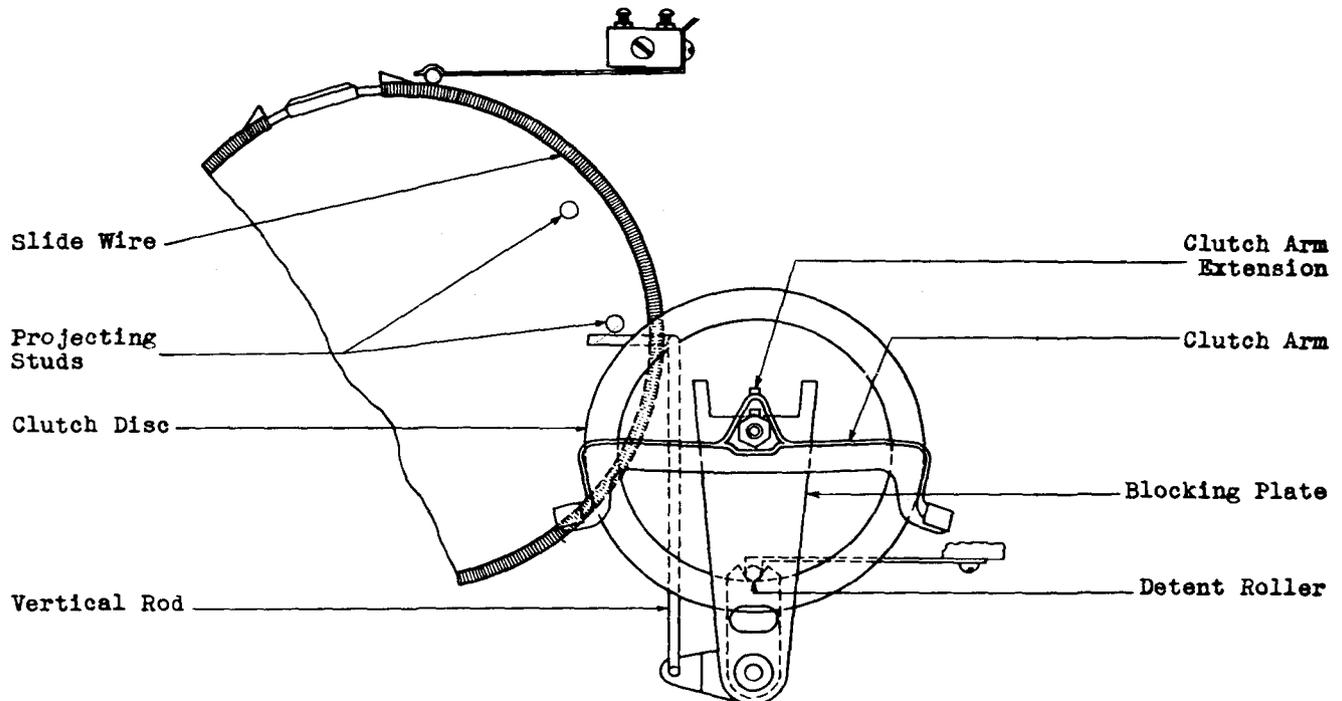

Fig. 15 - Clutch Arm Block Mechanism
(1) Stop the controller as described in paragraph 3.004. If this requirement is not met check the requirement in regard to bridge balance (Rq.2.13) to determine if the slide wire and the dial have the correct angular alignment with respect to each other. If their angular alignment is satisfactory then check whether the blocking plate Fig. 15 is correctly centered. To do this, it will be necessary to remove the balancing mechanism as described in paragraph 3.01 (7). The prongs of the blocking plate should be equidistant from the clutch arm extension when the clutch arm is horizontal and when the roller detent is in its notch. If the blocking plate is off center in this respect loosen the two screws in the hub of the blocking plate using the KS-6854 screwdriver and recenter the blocking plate. Tighten the two set screws securely and remount the balancing mechanism as described in paragraph 3.01(10).
(2) If the requirement still is not met after the above adjustment the trouble may be due to the vertical rod being either too high or too low. Turn the dial to the low end of its scale first making certain that the clutch is disengaged and observe the dial reading when the stud just touches the vertical rod. Turn the dial to the high end of the scale and observe the dial reading when the other stud just touches the